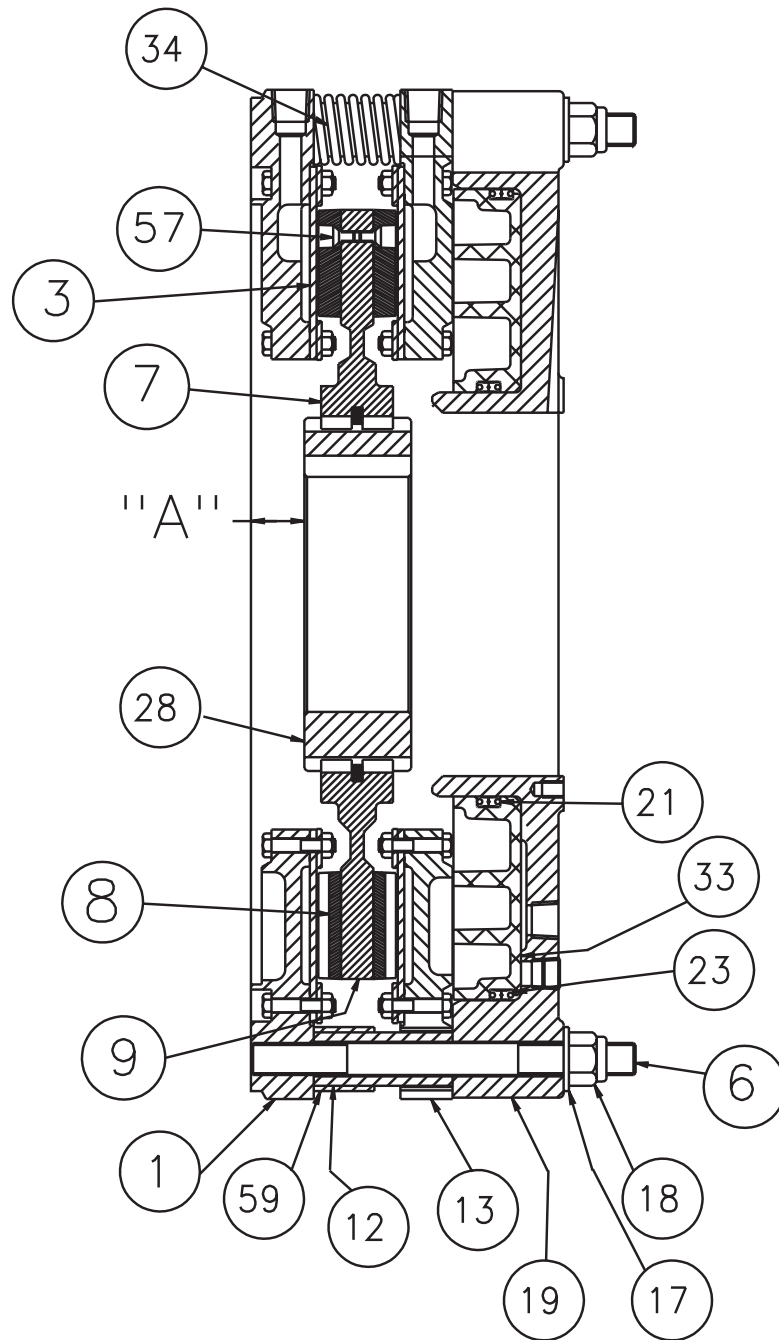

Figure 1
- 1.2.1 Refer to Figure 1. Air is introduced to the unit causing the pressure plate assembly (13) to move and make contact with the friction discs (8). Torque is transmitted through the studs (6) to the mounting flange (2). The release springs (34) assist in disengagement and retraction of the piston (33) and pressure plate. High heat dissipation is accomplished by passing water through a special cavity behind copper wear plates (3).
2.3.5 Press the gear onto the shaft, making sure that the dimension between the gear and the tensioner mounting surface ("A") is maintained. See Figure 1- 3 and Table 3. Heating the gear uniformly to 250°F (121°C) will expand the bore and ease assembly.